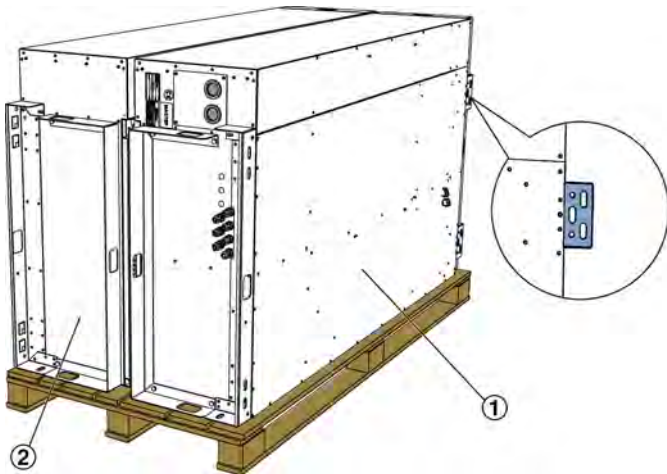
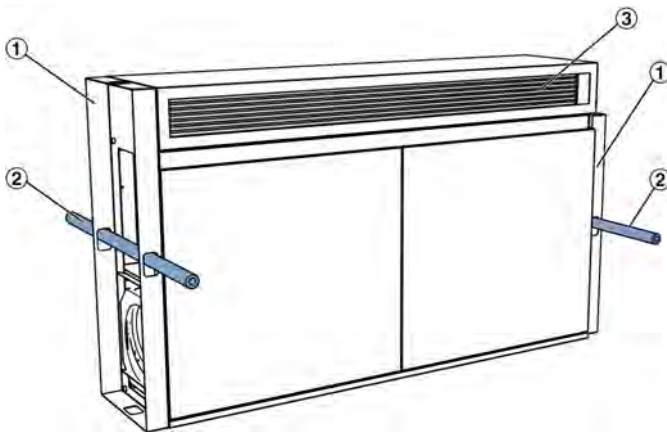

Fig. 8: Delivery state
Fig. 9: Transport with transport aids
1. ▶ Before assembly, transport the device component 1 (Fig. 8 /1) to the assembly location. For this purpose, the device can be transported using the transport aids (Fig. 9 /1). For example, with round slings for forklift transport. Alternatively, tubes (Fig. 9 /2) (provided by others) can be inserted into the transport aids with which the unit can be lifted.
The supply air grilles (Fig. 9 /3) and cover strips are packed in one of the device components. Remove them and store them for later assembly.